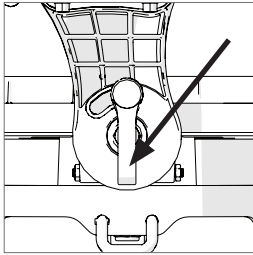

Fig. 33
- Loosen the bevel lock lever. **(Fig. 33)**